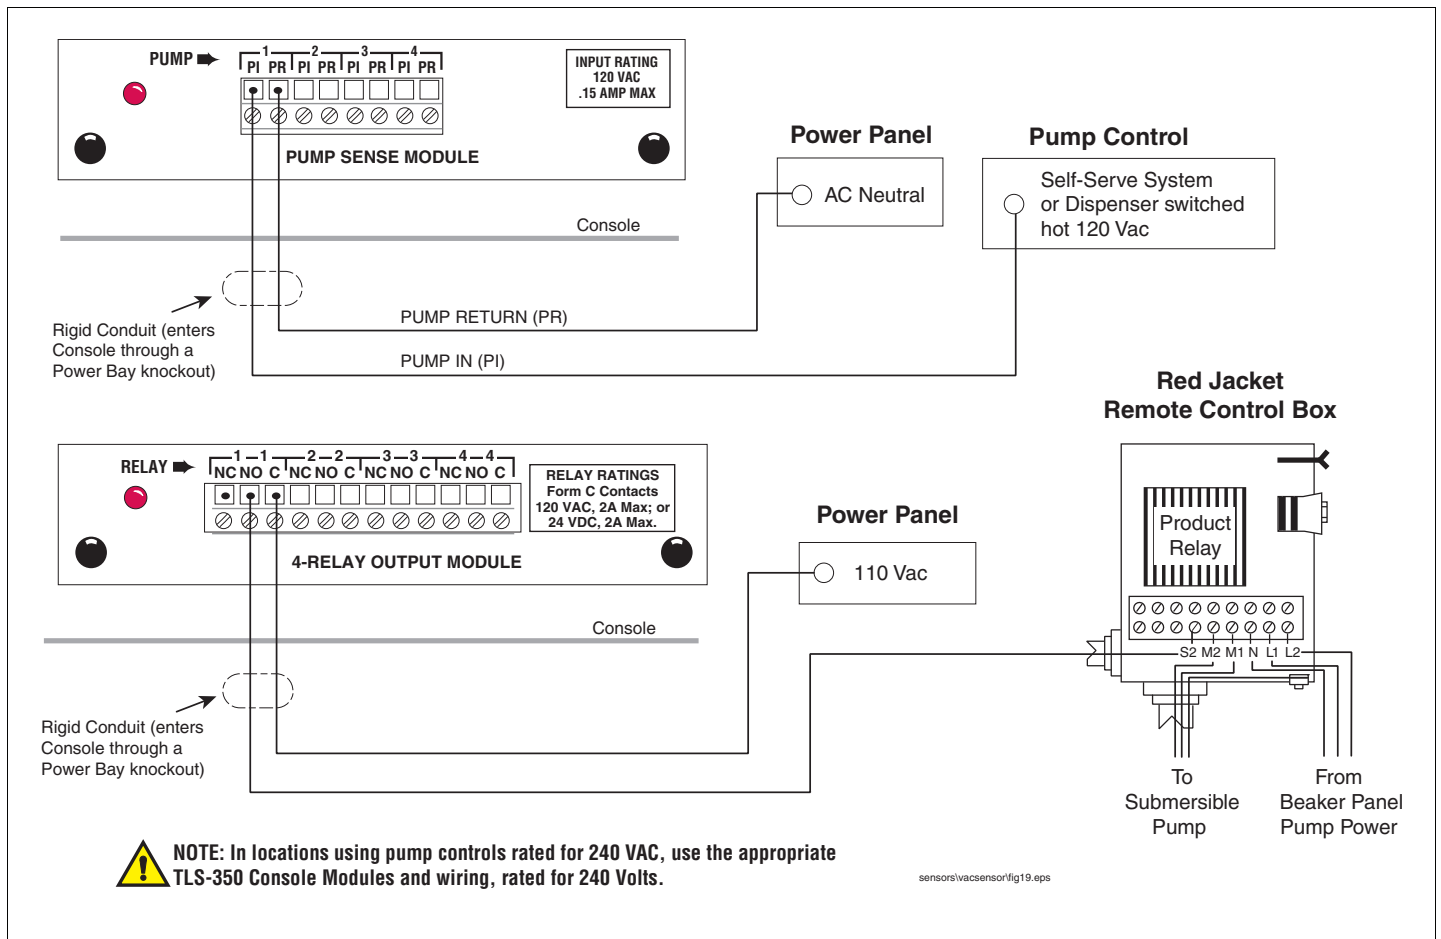
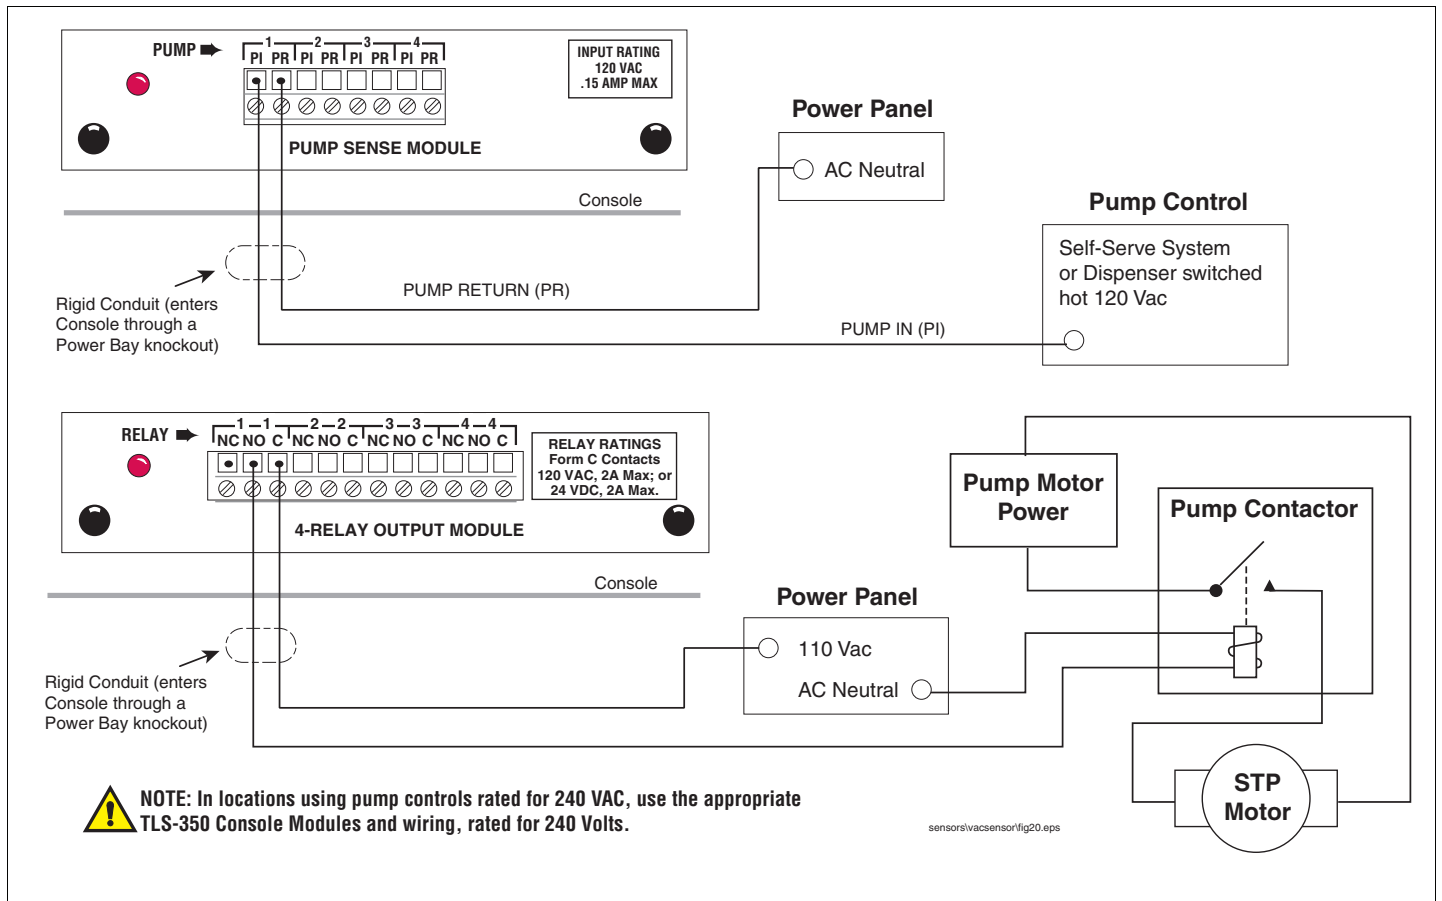

Figure 17. Connecting Pump Sense & 4-Relay Modules - Red Jacket Pumps
Figure 18. Connecting Pump Sense & 4-Relay Modules - Non-Red Jacket Pumps
- For module connections with Red Jacket pumps see Figure 17. For module connections with non-Red Jacket pumps see Figure 18.